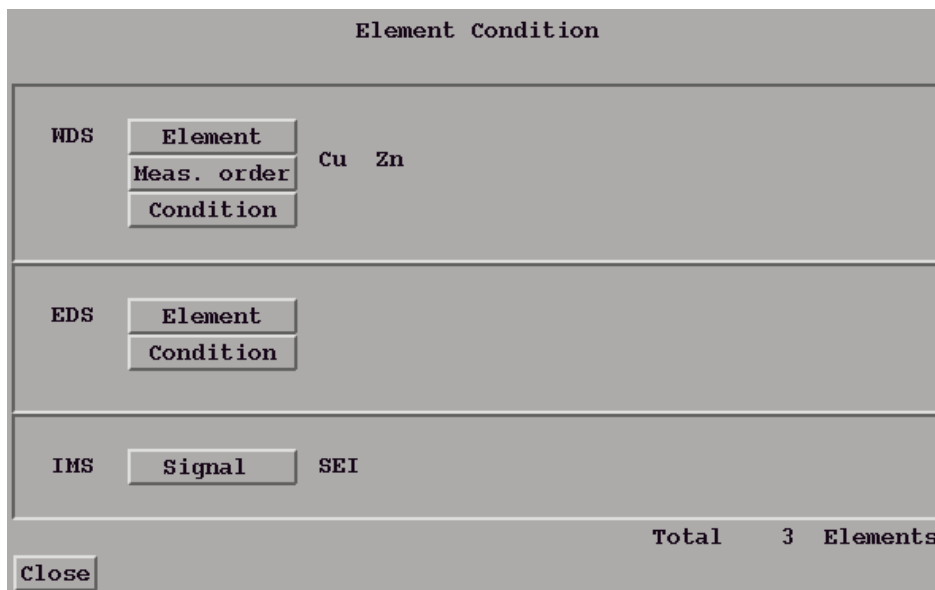
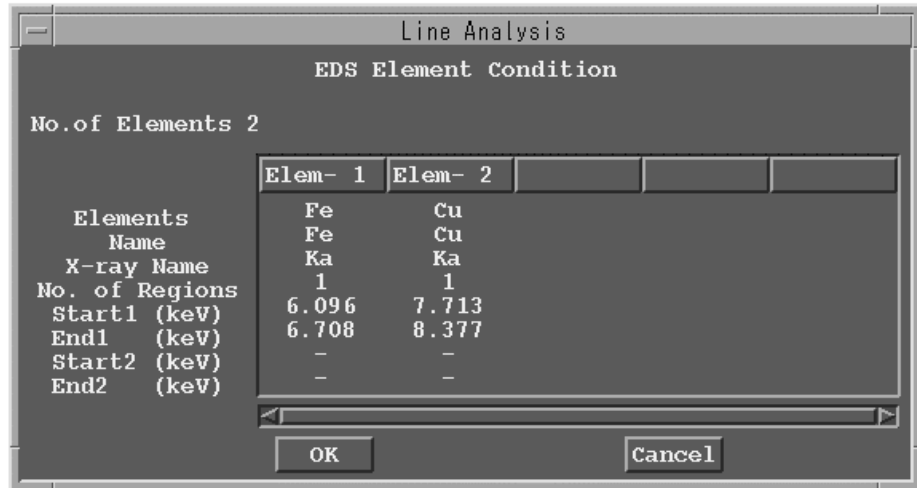

Fig. 6 Element Condition window
Fig. 11 EDS Element Condition window
The Element Condition window opens as shown in Fig. 6. In this window you can record the elements that you want to measure and their measurement conditions for spectrometers and detectors of WDS, EDS (for JXA-8200), and IMS.
- ◆ Select **WDS-Condition** from the Element Condition window (refer to Fig. 6).
- ◆ Select **EDS-Condition** in the Element Condition window (refer to Fig. 6).
The WDS Element Condition window opens as shown in Fig. 11. Here you can change measurement conditions for EDS elements.
- If two characteristic X-ray peak positions are so close that their ROIs may overlap each other, first record the element in the Element Condition window of Fig. 6, then click on the **EDS-Condition** button to open the EDS Element Condition window of Fig. 11. Here, the program automatically calculates their ROIs so that they will not overlap and displays them. Then, click on the **Elem-n** button and the EDS Element Data Table window will appear. The displayed ROI values in this window may not be identical to those in the EDS Element Condition window, but this is not a problem.
1. Select **IMS–Signal** in the Element Condition window (refer to Fig. 6).